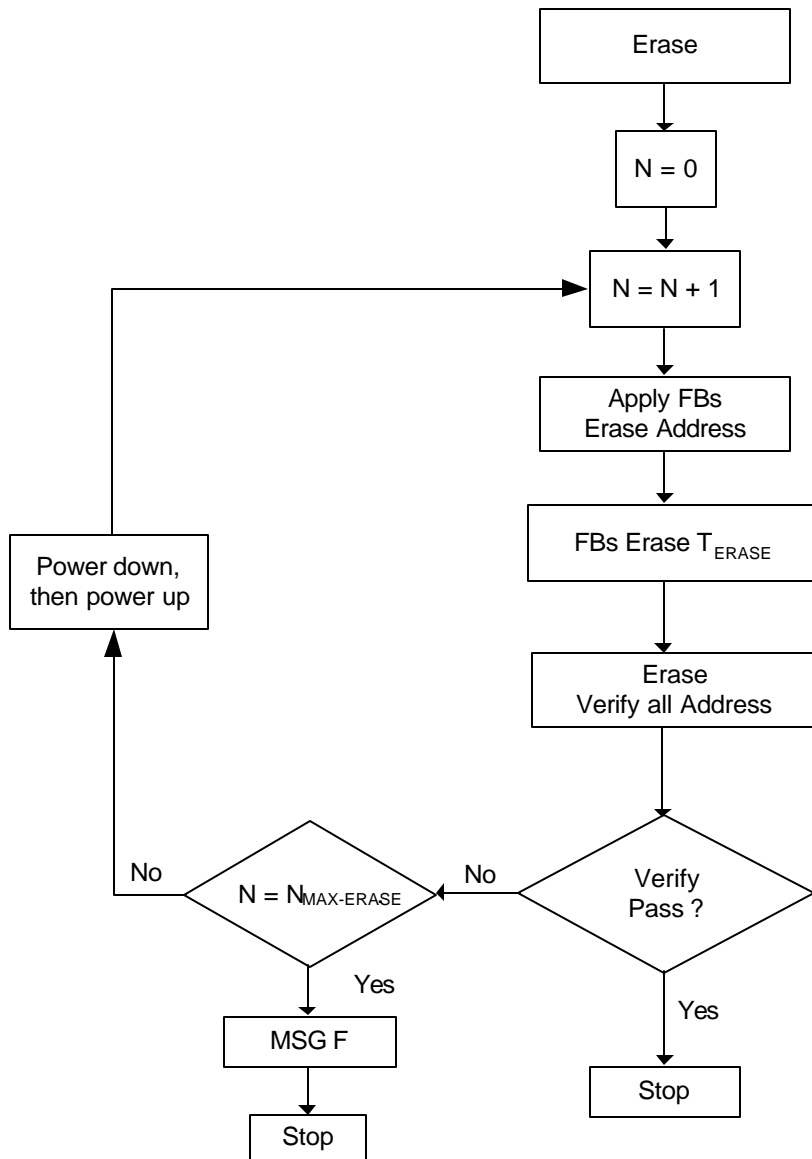

Figure 3. Erase Flow
To erase the device, follow the flow in Figure 3 and the timing according to Figure 9. See the Add.dat file for the Function Block (FB) erase address. Erase the device with Vpp set to Vppers and then perform an erase verify with Vpp set to Vppbnk. If any bits failed to erase, a number of retries are permitted. The number of retries ( $N_{\text{MAX-ERASE}}$ ) can be calculated using the following equation: